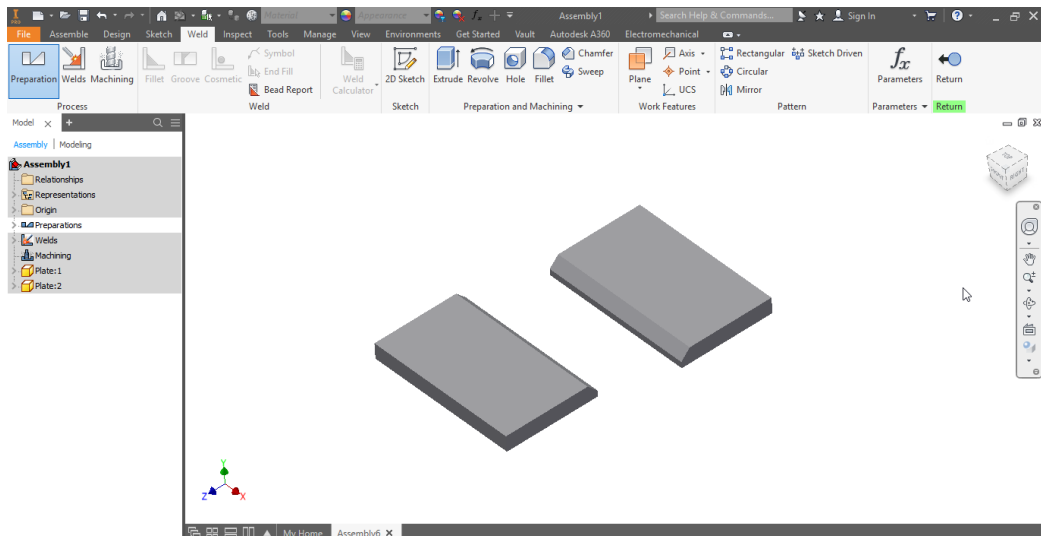

Figure 16-23 Weldment after chamfering the two plates
- Specify a point on the screen at a location where the second instance will not interfere with the previous instance, refer to Figure 16-23. Right-click and then choose **OK** from the shortcut menu displayed.
5. Choose the **Return** tool from the **Return** panel of the **Weld** tab to finish the preparation (chamfering) of the component for weldment. The weldment assembly after chamfering the edges of the two plates is shown in Figure 16-23.